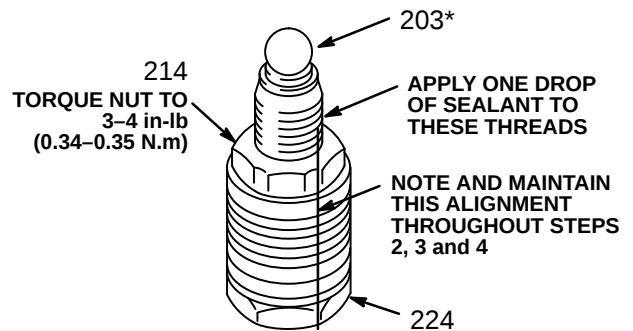

Fig 19-2
2. Tighten the packing retaining nut (214) against the gland (213) and torque to 3-4 in-lb (0.34 – 0.35 N.m). See Fig 19-2.
3. Apply 1 drop only of sealant, supplied with the repair kit, to the piston valve threads. Place the small ball (203*) on the valve. See Fig 19-2. Hand tighten the valve into the rod (223) just until the nut contacts the rod. Place the flats of the displacement rod in a vise.